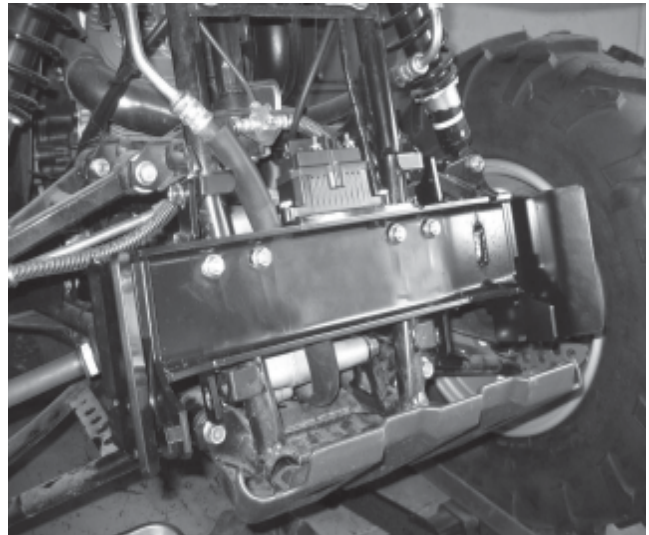

Figure 5
- If the contactor is being mounted up front. Attach the contactor and bracket to the plow mounting bracket as indicated in figure 5. Place the contactor and bracket on top of the plow mounting plate, make sure the contactor clears the oil coolant line. Use 2, M6-1.00 x 25mm hex flange bolts and 2, M6-1.00 hex nuts w/serrations, see the torque specifications on page 2.